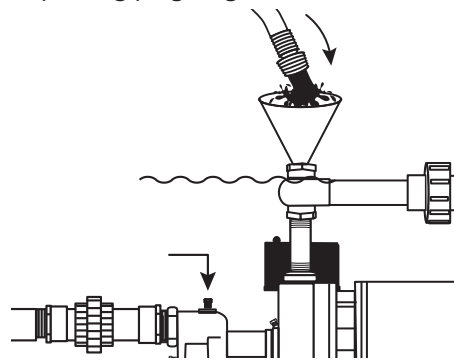

Figure 15 - Replace air relief plug
3. Replace air relief plug and continue adding water to pump cavity until water reaches the top of the priming plug. (Fig. 15)